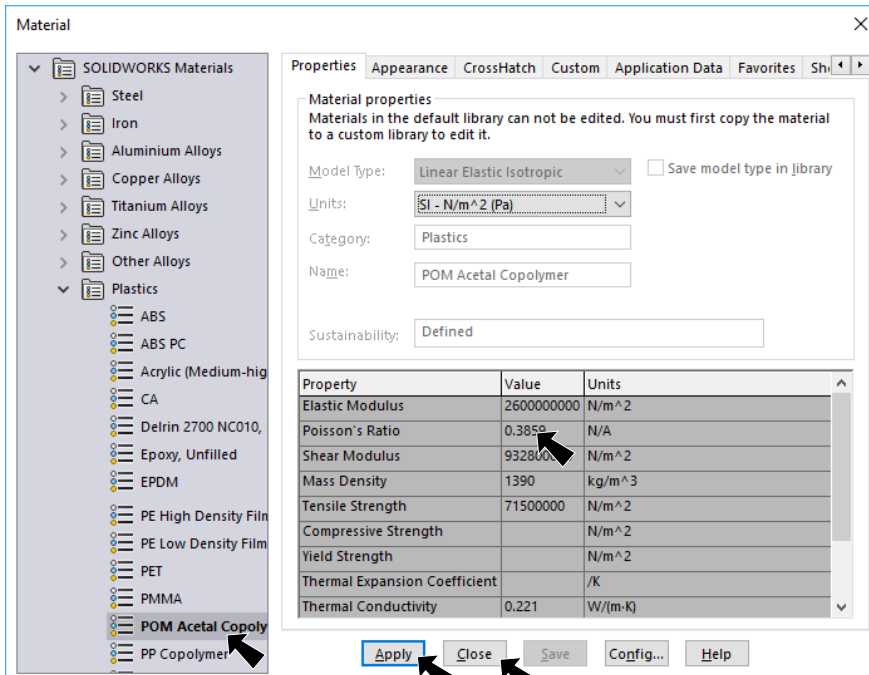

Fig. 15
Step 2. Expand **Plastics** in the material tree and select **POM Acetal Copolymer**, Fig. 15. Click **Apply** and **Close**.